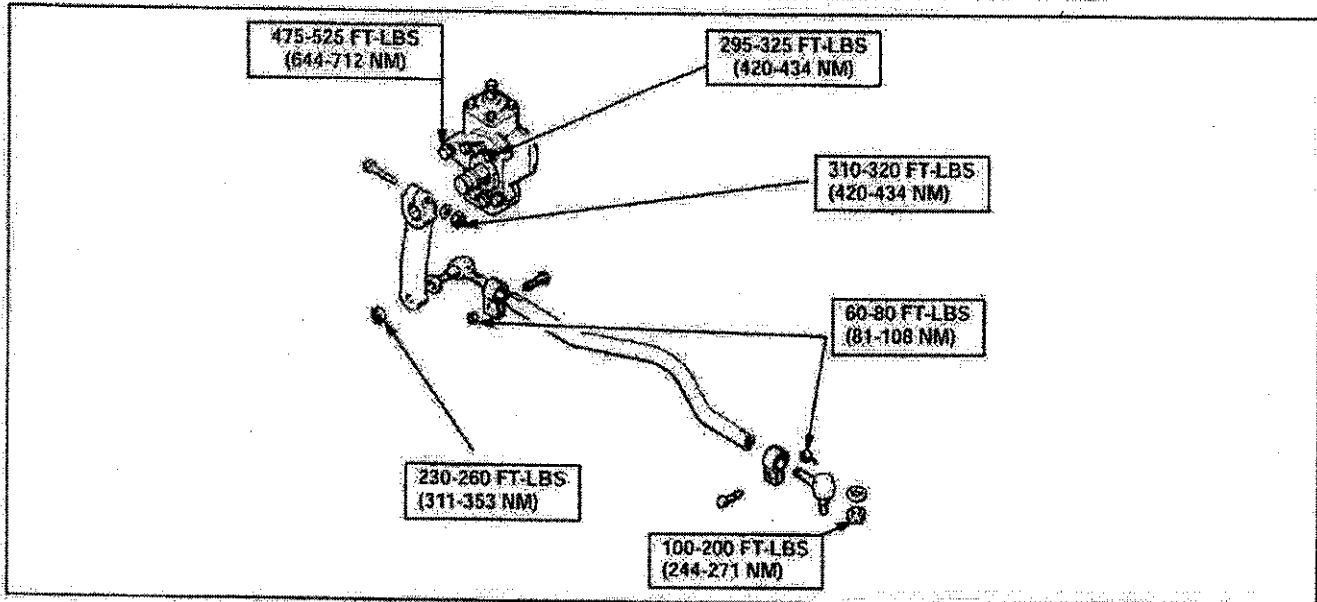

Figure 3. Torque Chart
14. Install gear bolts with hard steel washers. Torque the 7/8 inch bolt to 475-525 ft-lbs (644-712 Nm). Torque the 3/4inch bolts to 295-325 ft.-lbs (400-441 Nm) (see Figure 3 / Torque Chart).